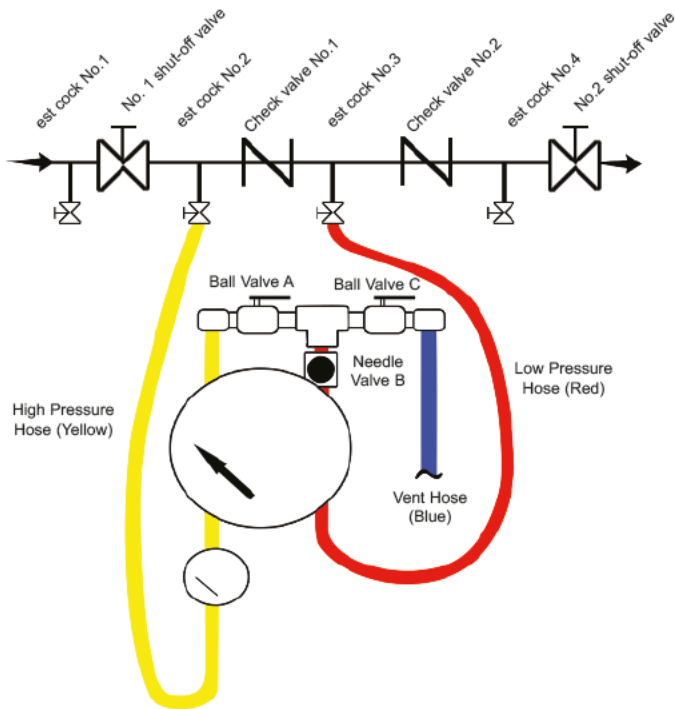

Figure 2 - Reduced Pressure Principle Backflow Preventer
**Step 1 - Refer to Figure 2**